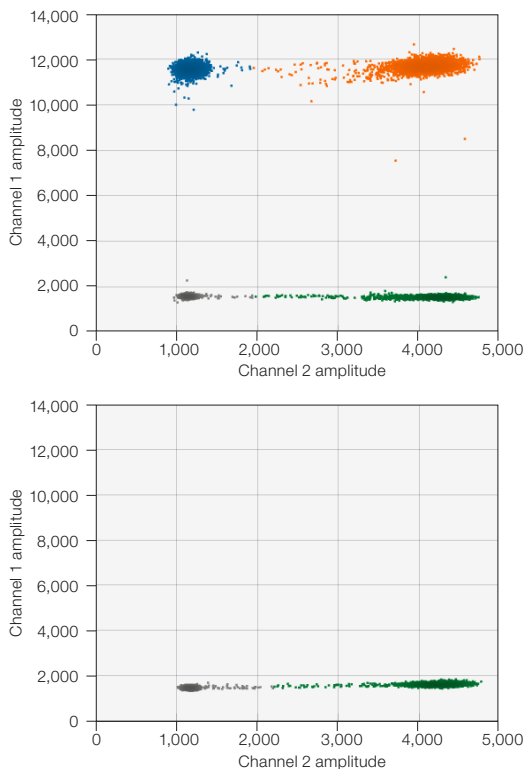

Fig. 4. Example 2D plots for the positive control (top) and negative control (bottom). Each plot is 1 well.
2. Navigate to the 2D Amplitude tab and examine the control wells for uniformity. See Figure 4 for example positive and negative control well 2D plots. Do not use poor-quality positive control well(s) as thresholding controls (see troubleshooting section for examples of poor-quality wells).
* Expected 2D phenotypes are shown in Figure 4. See troubleshooting section for examples of well failures and unexpected 2D phenotypes.
Table 10 defines each cluster of the 2D plots for the RCL assay. RCL is detected in FAM and the internal control is detected in HEX. Example positive control and negative control 2D plots are shown in Figure 4.